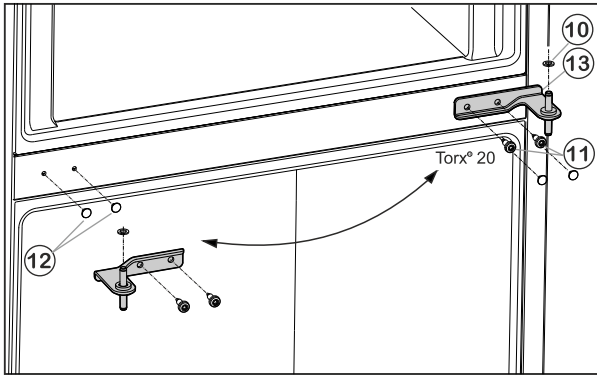

Fig. 6
- ▶ Carefully pull off the covers Fig. 6 (12) and fit to the opposite side.